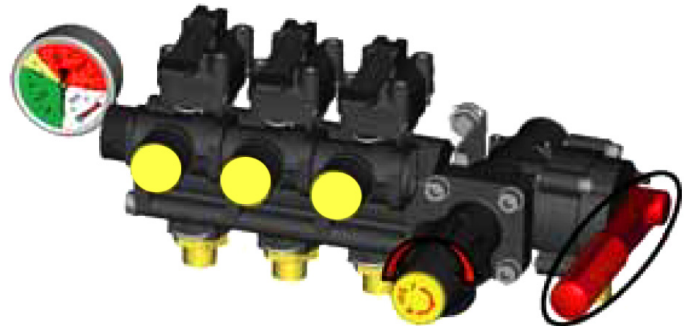

Figure 38
5. Make sure that the by-pass of regulator is in the regulator input lever position. (Figure 38 For Optional FPR Control).